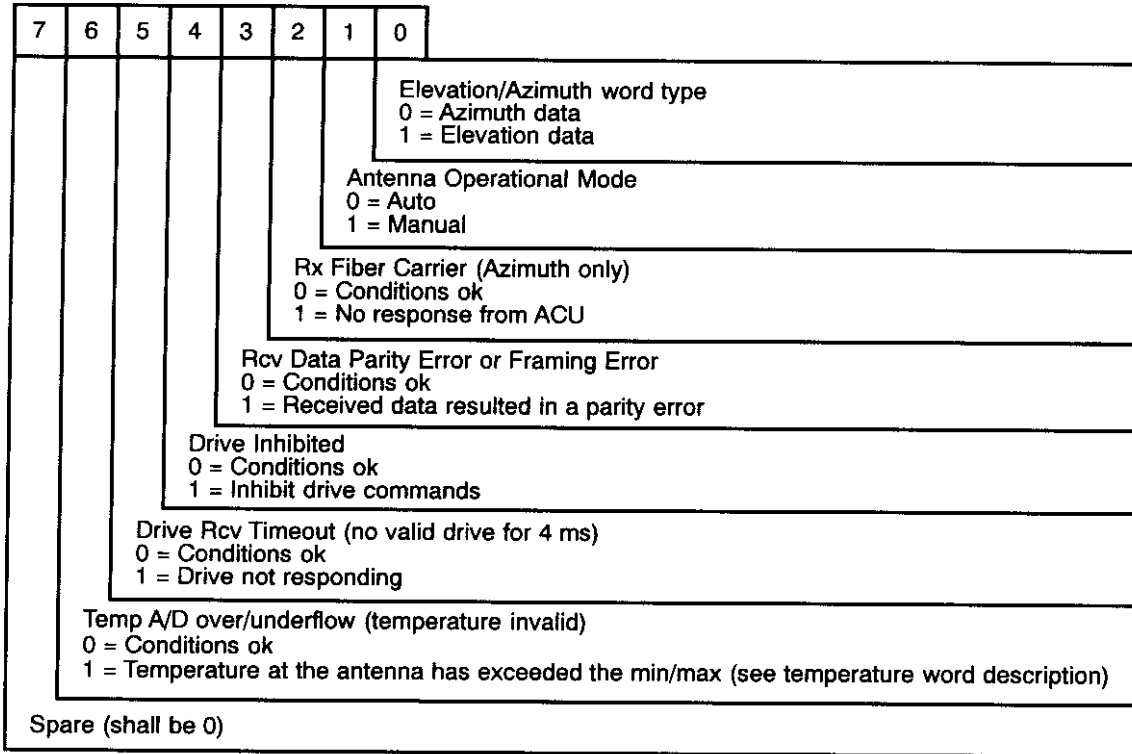

Figure 12. Elevation & Azimuth Status Words
- Word 2: Status see Figure 12
- Word 9: Status see Figure 12